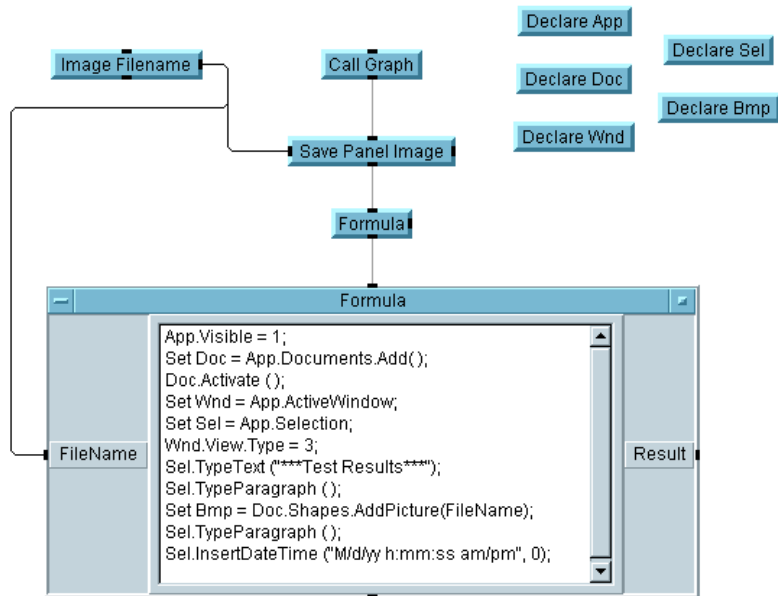

Figure 6-16. Adding the ActiveX Statements
7. Click **Device** ⇒ **Formula** and enter the statements shown in Figure 6-16, which are also described below. Rename input terminal **A** to **FileName**. Connect the data input and sequence input pins as shown in Figure 6-16.
In Figure 6-16, notice that you can nest property and method calls together with the **Object**'s dot notation. Refer to ActiveX documentation to find the right properties in the target applications. You can use the properties and methods described in this chapter to begin generating test and measurement reports. The entries in the **Formula** object are as follows: